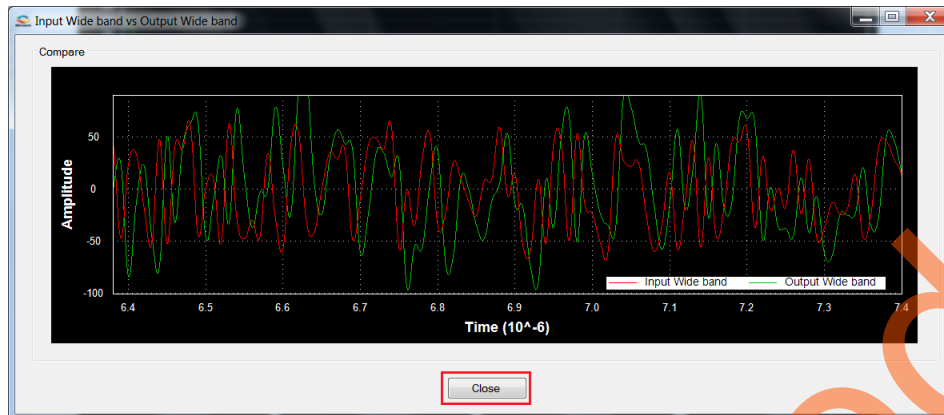

Figure 23 • Closing Input Wide Band vs Output Wide Band
10. Click **Close**, refer to Figure 23.